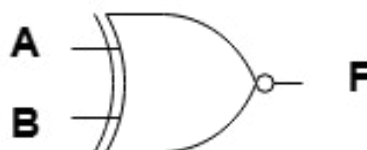

Figure 9.7: Two-input XNOR Gate
- c. It can also be represented diagrammatically, as shown in Figure 9.7.